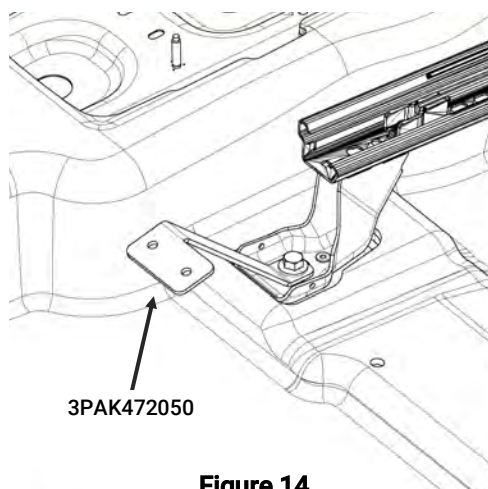

Figure 14
3. Using a 13mm socket remove the rear inboard passenger seat bolt. Place the Inboard Support Bracket [3PAK472050] on top of the seat rail foot and loosely reinstall the bolt. Figure 14 shows the installed Inboard Support Bracket.